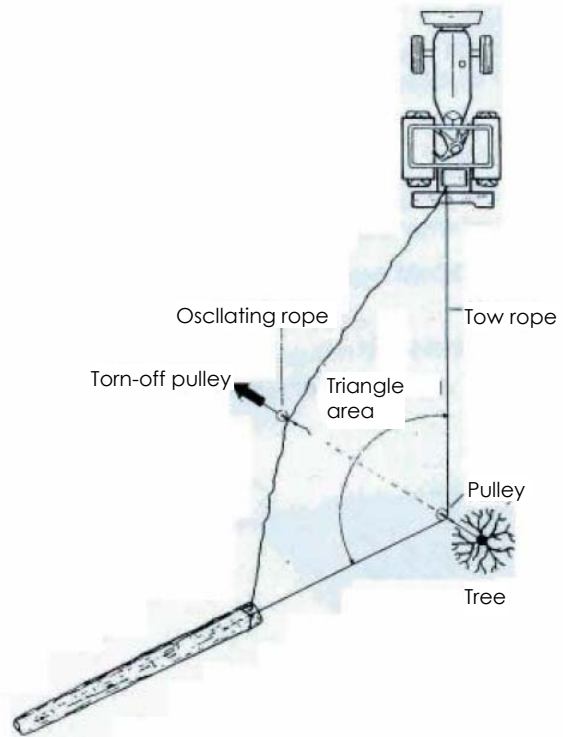

Figure 7
37. During towing, standing between the load is prohibited (figure 7).